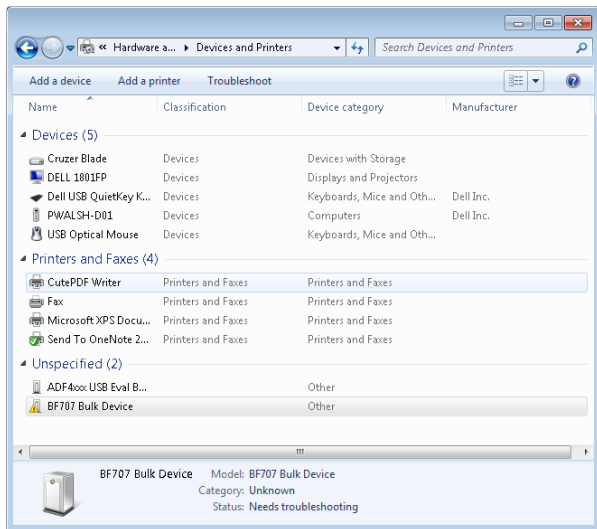

Figure 7. Devices and Printers Window
1. Find the device in the **Devices and Printers** window that is listed as **BF707 Bulk Device** (see Figure 7).